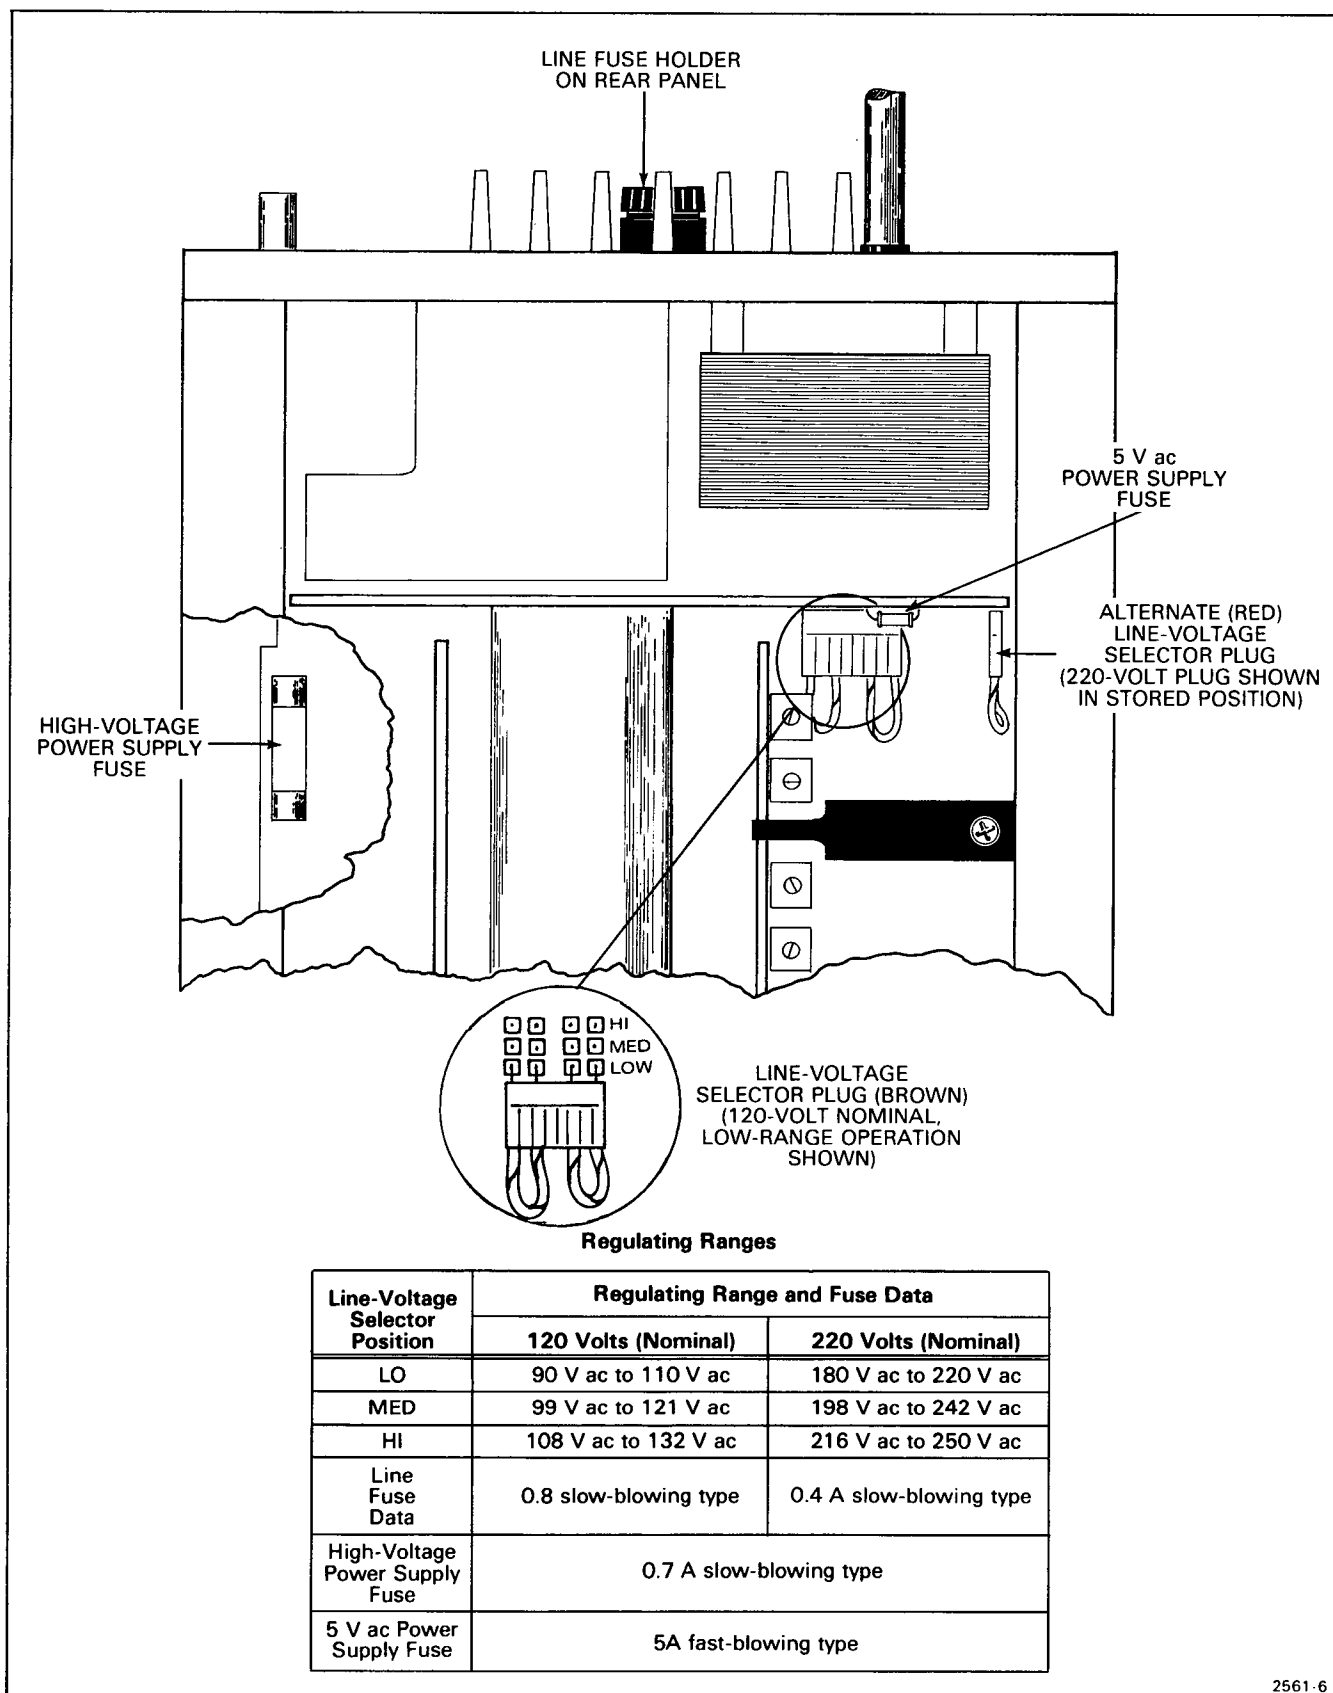

Figure 3-1. Location of line-voltage selector plugs, regulating-range pins, and fuses.
2. Insert the proper line-voltage selector plug (the brown plug for 110-volt operation or the red plug for 220-volt operation) on the line-voltage selector pins (located on the Power Supply board) labeled for the desired nominal line-voltage range. Refer to Figure 3-1 for location and additional information.
3. Remove the line fuse from the fuse holder and check for the correct rating. Replace it with one having the correct rating, if necessary. Refer to Figure 3-1 for fuse information and location.